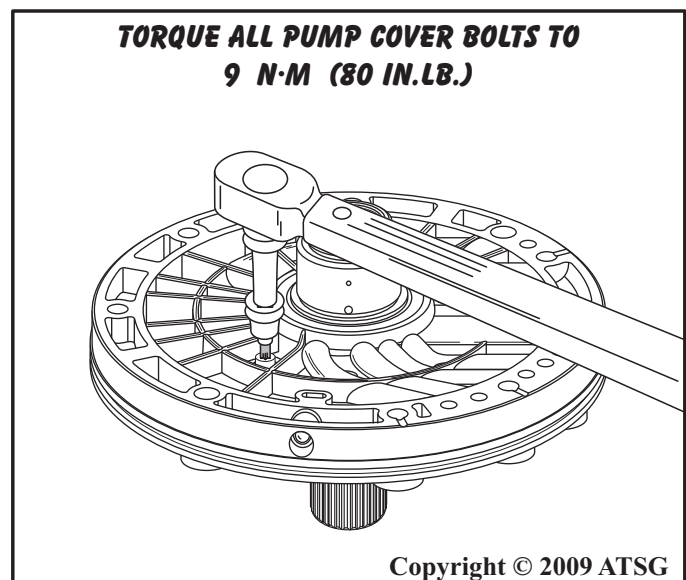

Figure 92
15. Torque the nine pump body retaining bolts to 9 N·m (80 in.lb.), as shown in Figure 92.